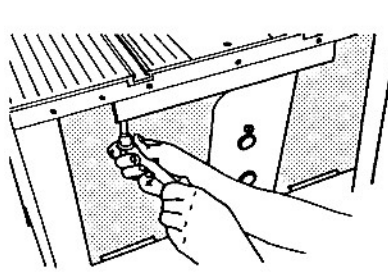

Fig. 49
58. Use a 1/2" socket and ratchet wrench to remove the four bolts (14) attaching the shipping brace (15) to the table top (1). See Figs. 49 - 52 for their locations. Save for later re-attachment.